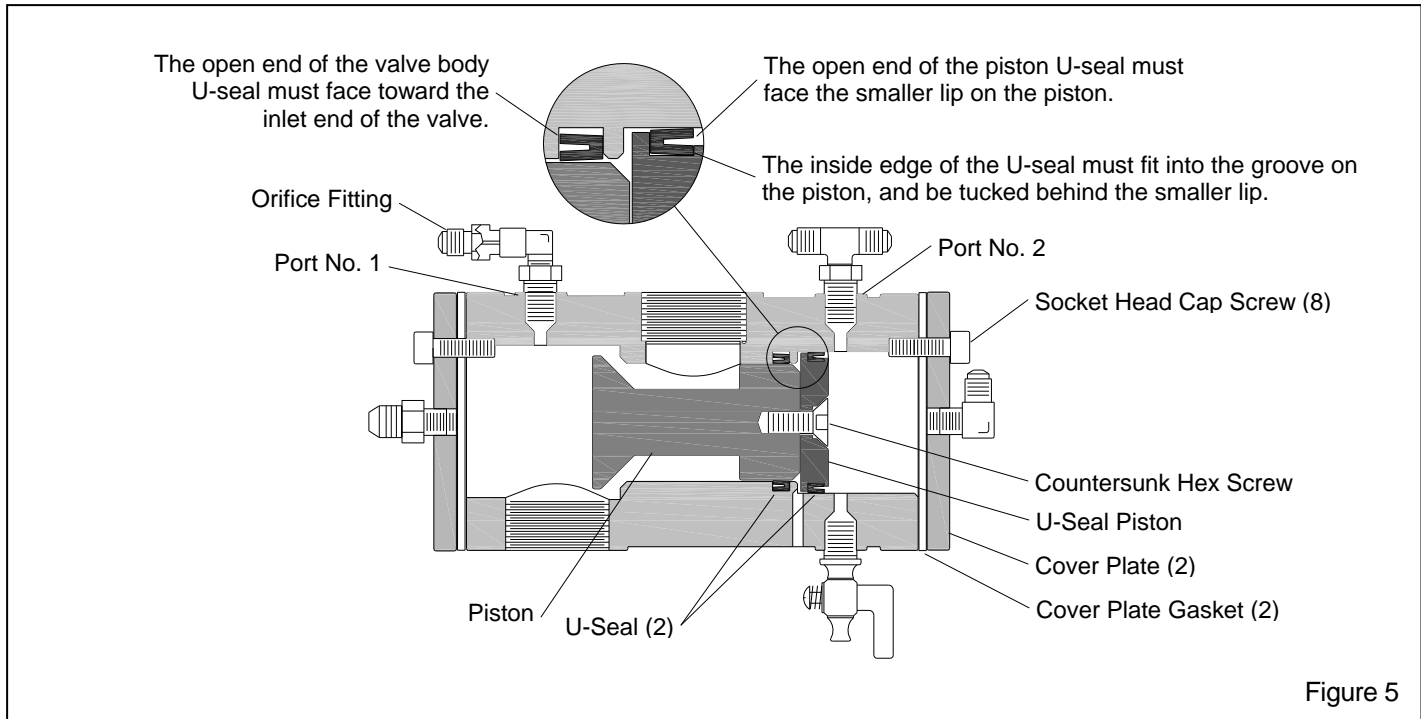

Figure 5
6.1 Inlet Valve Inspection and Service. Refer to Figure 5.
6.1.10 Insert the U-seal piston assembly into the body. The countersunk side of the piston faces outside as shown in Figure 5.